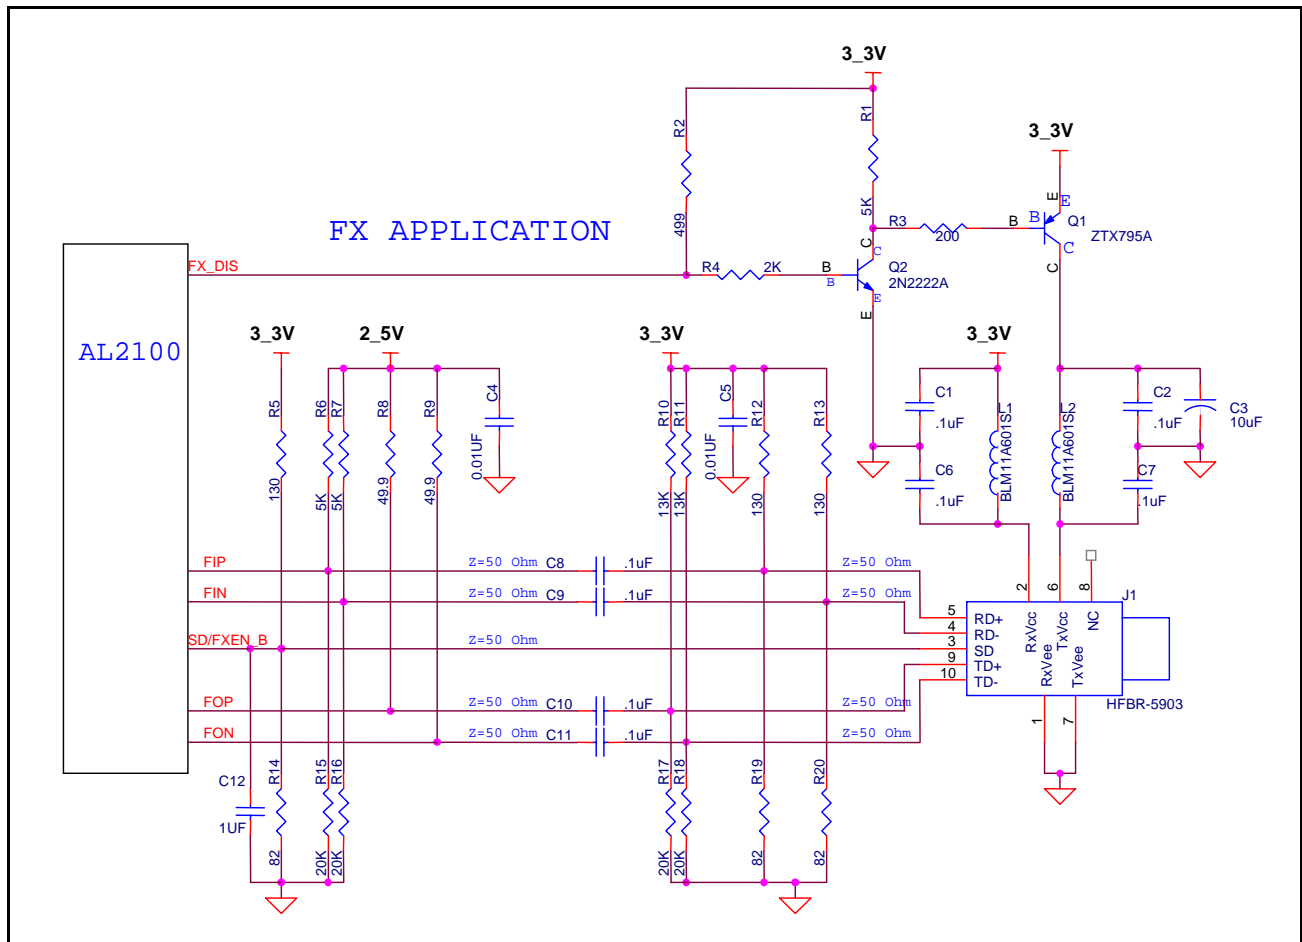

Figure 2: Fiber Connection
The AL2100 supports 100BASE-FX operation via the SD, FXIP/FXIN, and FXOP/FXON pins. The connection diagrams in Figure 2 illustrate the proper termination and level shifting required to interface the AL2100 to a 3.3V fiber transceiver.
Note Figure 2 illustrates only the termination scheme for the 100BASE-FX interface. Refer to the fiber transceiver manufacturer's guidelines for transceiver power supply connection and filtering.
The FOP/FON and FIP/FIN signal traces between the PHY and fiber transceiver should each be routed with a characteristic impedance of 50Ω (100Ω differential) to match the termination network impedance given in Figure 2.
Configuring the AL2100 100Base-FX operation is accomplished simply by connecting the SD input to a 100Base-FX compliant transceiver and by setting the potential of the pin as shown in Figure 2. Agilent manufactures high quality 100BASE-FX transceivers. The Agilent fiber module part# HFBR-5903.
- **FIP/FIN pin:** The FIP/FIN inputs of the AL2100 are internally biased and typical 3.3V fiber transceivers normally source PECL with a center of the voltage swing of approximately 2.0V. Additionally, if the system layout requires that the FIP/FIN trace lengths are more than approximately one inch, take care to set up the termination to account for transmission line effects as well (as indicated in Figure 2).